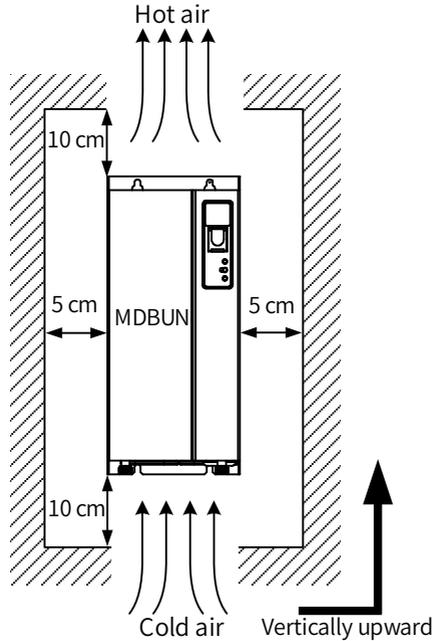

Figure 2-3 Installation clearance for the MDBUN series braking units
- 4) Ensure that the clearance among the braking unit, drive, and other electrical device meets the requirements shown in Figure 2-3.